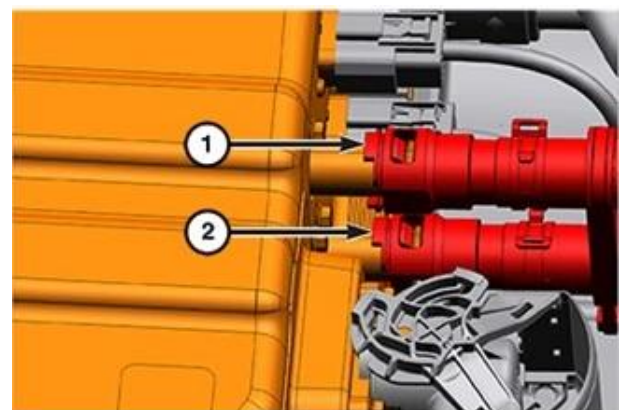

Figure 36 – HV Battery Hose Quick-Connect Couplings
51. Place a suitable coolant recovery container under the battery coolant inlet and outlet hoses (Figure 36).
52. Disengage the quick-connect couplings (1 and 2) then carefully remove the coolant inlet and outlet hoses from the high voltage battery (Figure 36).